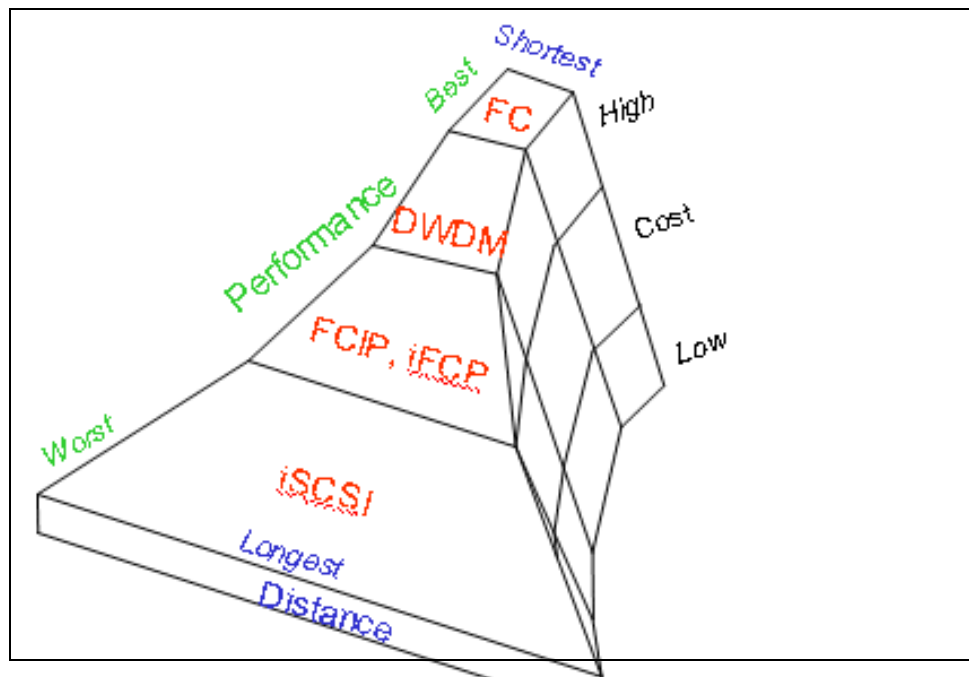

Figure E-2: Dark Fiber with WDM
- For long distances (more than several dozen kilometers), an optical amplifier is required to amplify the wavelength between two extenders to prevent attenuation through a fiber. Therefore, dark fibers are required to prepare for IN and OUT respectively. This is illustrated in Figure E-2.